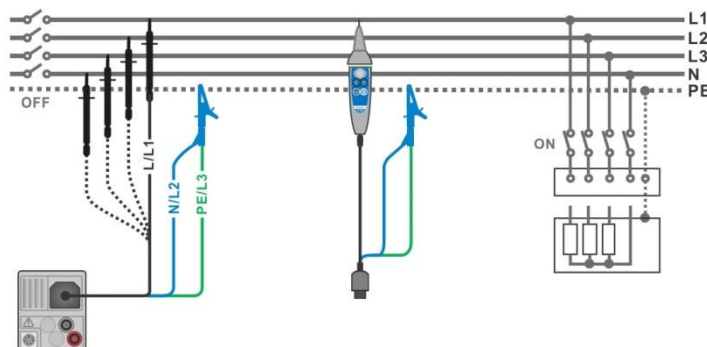
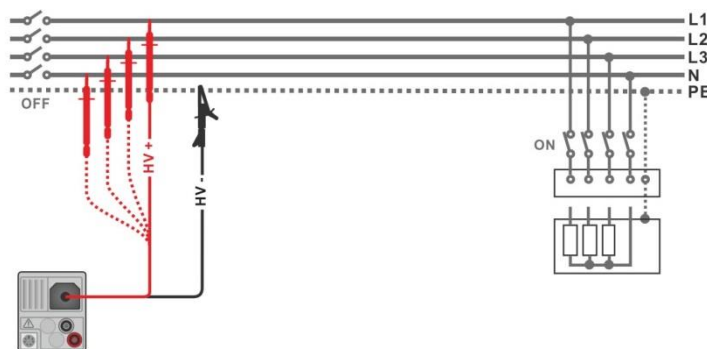

Figure 7.7: Connection of 3-wire test lead and Tip commander ($U_N \leq 1$ kV)
Figure 7.8: Connection of 2.5 kV test lead ($U_N = 2.5$ kV)
- › Connect test leads to object under test (see **Figure 7.7** and **Figure 7.8**).